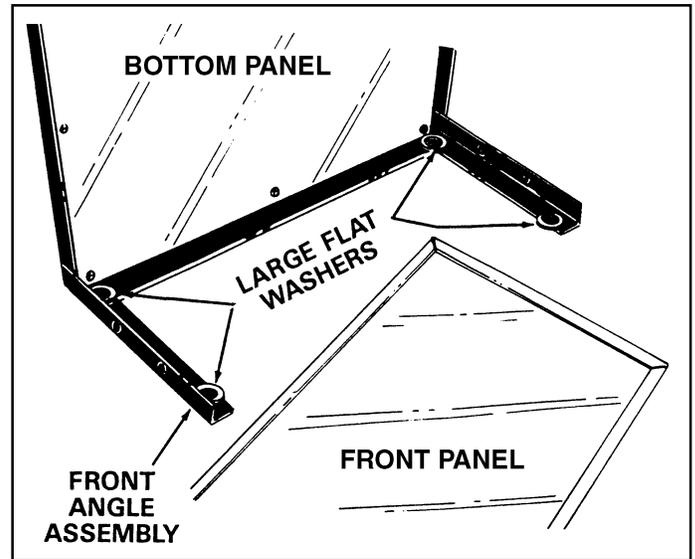

FIGURE 5
- Stand the cart on its front end with the front angle assembly on the floor. See figure 5.
- Temporarily place four large 1-1/2" flat washers (used on wheel axle) on the inside of front angle assembly. See figure 5.